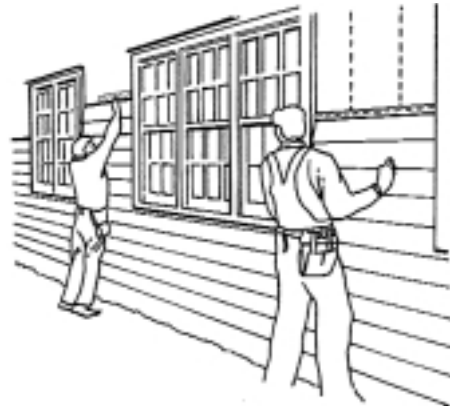

Figure 34.
- Check every fifth or sixth course for horizontal alignment (Fig. 34). Also check siding alignment with adjoining walls.